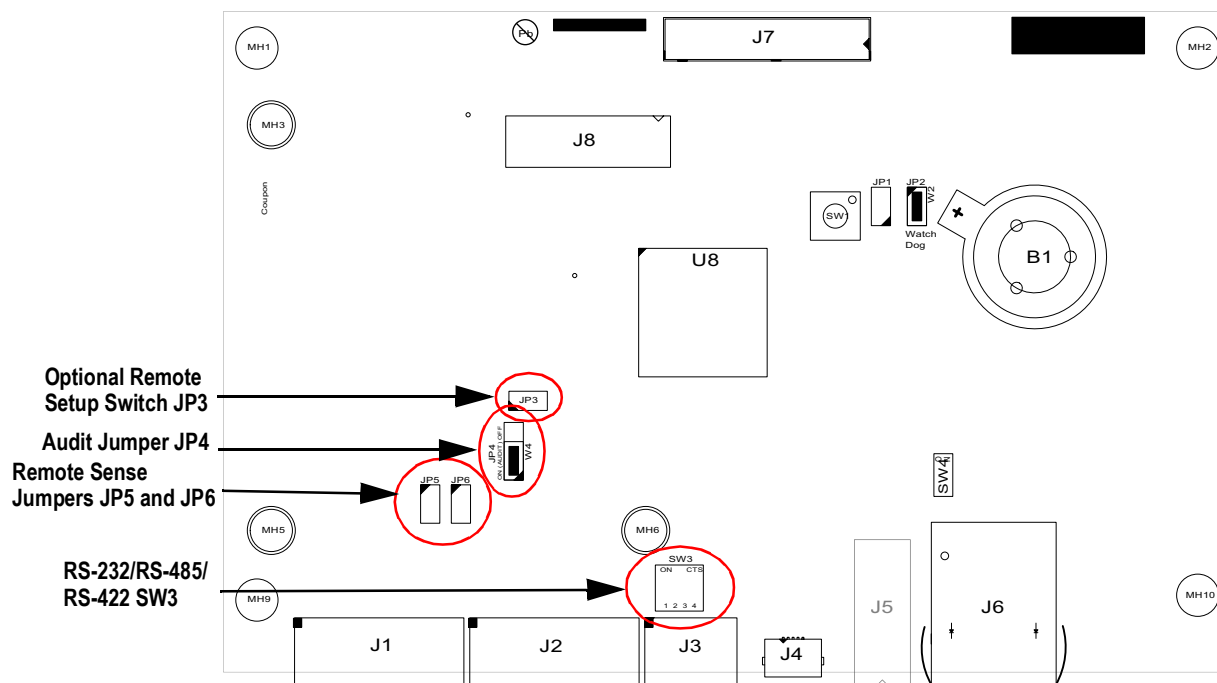

Figure 2-22. 880 CPU Board
**Note** For 4-wire installation, leave jumpers JP5 and JP6 on, see Figure 2-22 on page 27.